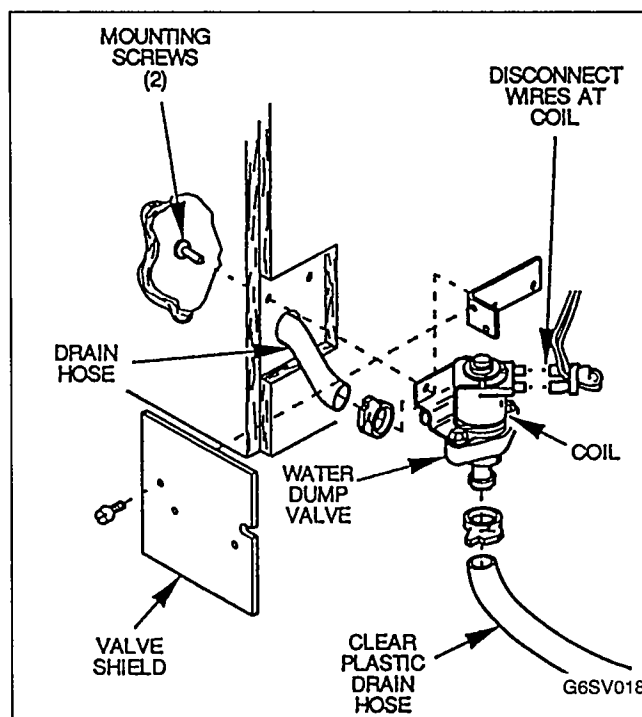

FIGURE 14. WATER DUMP VALVE REMOVAL
3. Check clear plastic outlet drain hose of dump valve, Figure 14, for leakage while the ice machine is in the freeze cycle.
REMOVE WATER DUMP VALVE (Figure 14)